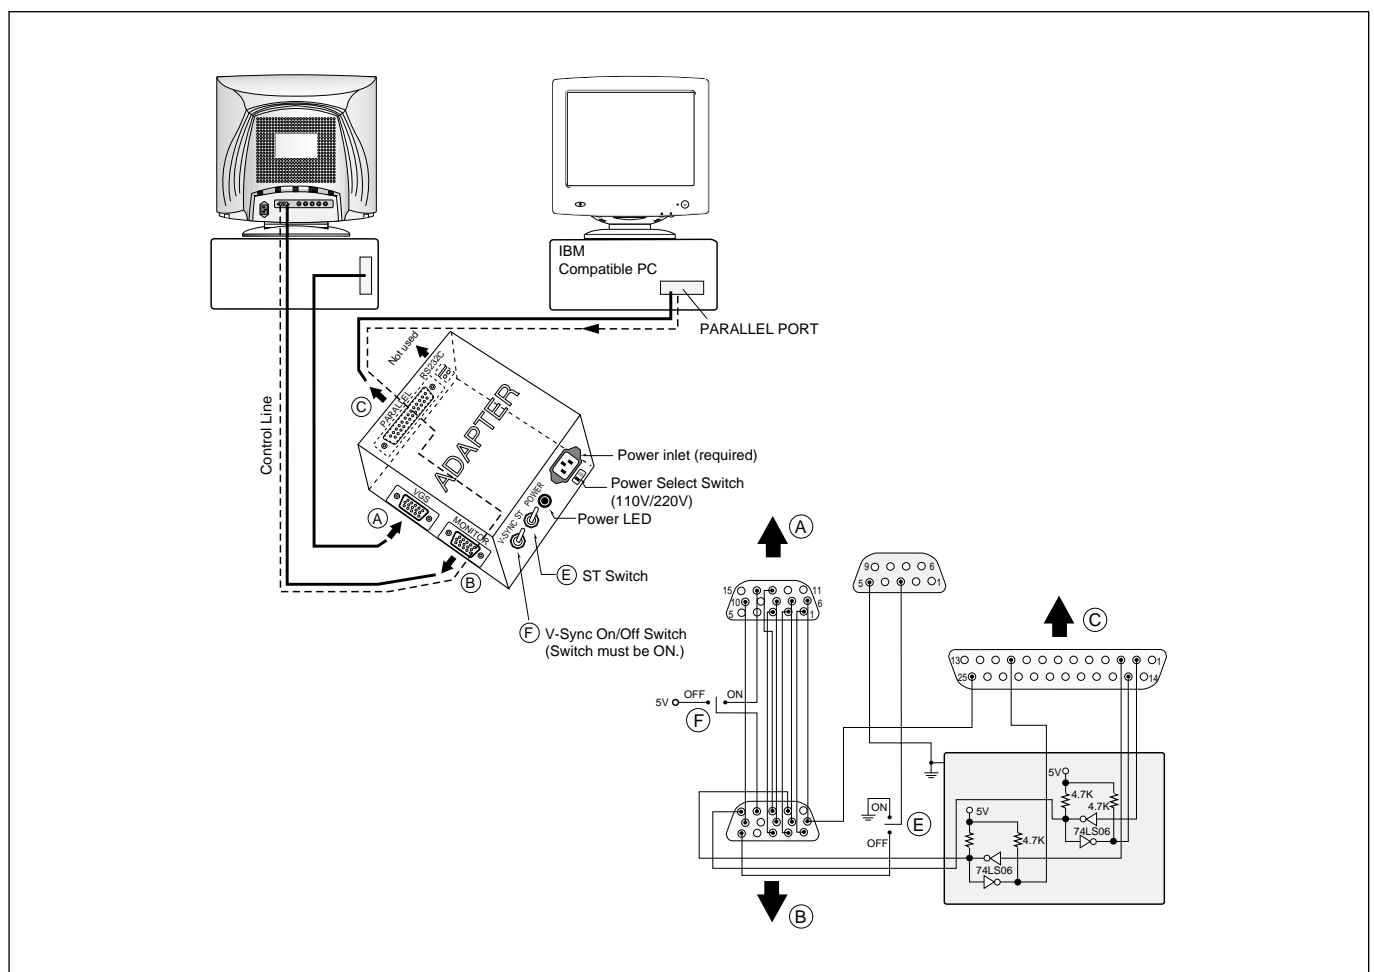

Figure 1. Cable Connection
- Install the cable for adjustment such as Figure 1 and run the alignment program on the DOS for IBM compatible PC.
- ① Display cross hatch pattern at Mode 10.
- ② Adjust D925 cathode voltage to $175 \pm 0.5V$ with VR955.
- ② Adjust CDT Anode voltage to $26kV \pm 0.5kV$ with VR548.
- ① Display cross hatch pattern at Mode 19.
- ② Check whether screen is synchronized or not.